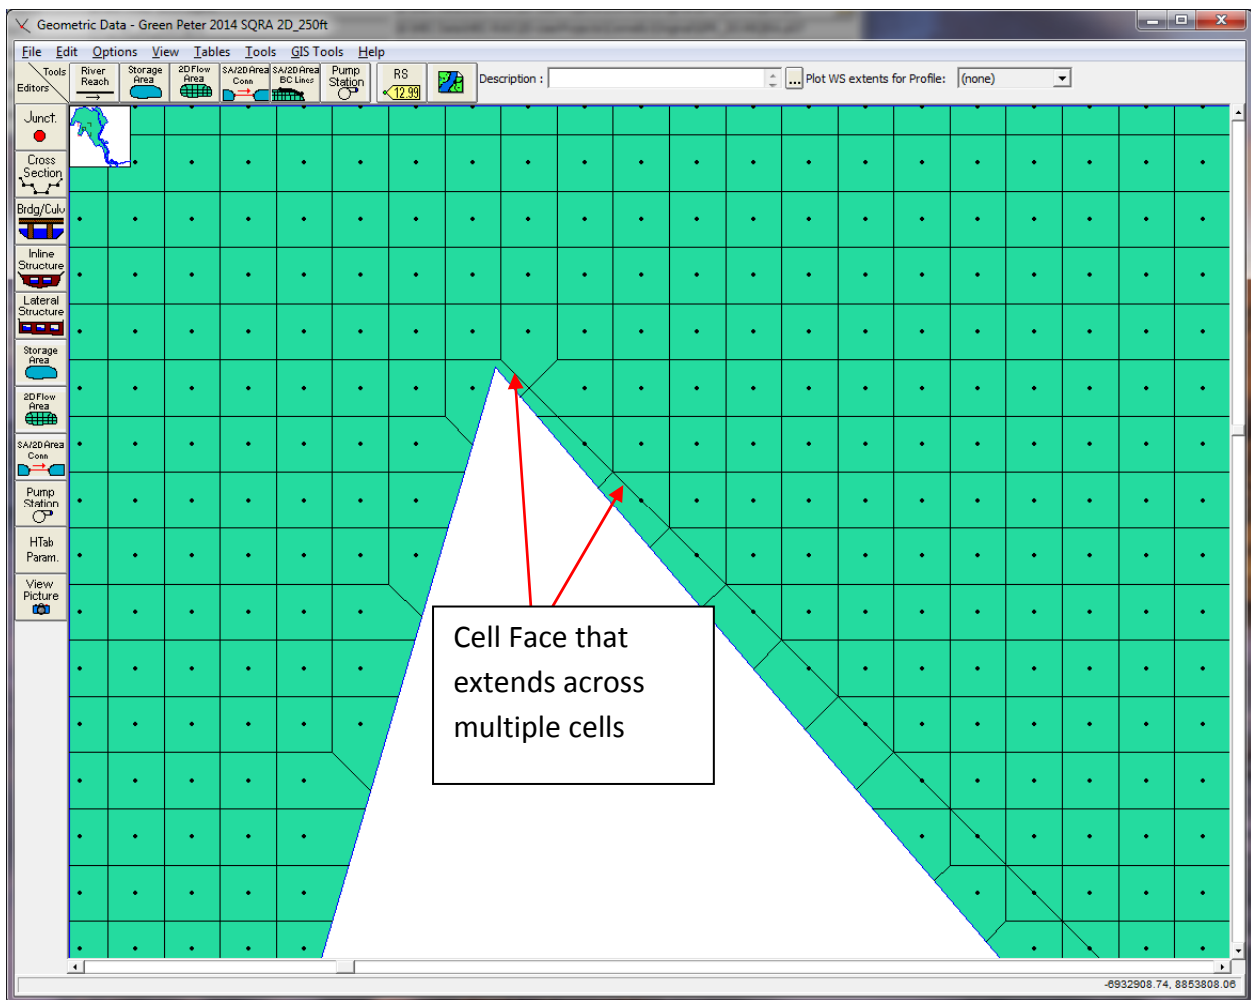

Figure 21. Example of a cell face that extends way beyond that single cell.
- **Cell Face Crosses over into Multiple Cells:** On a rare occasion, the automated mesh generator may create a cell face that extends way past that single cell (Figure 21). This only occurs for boundary cells, and usually where the boundary has a very sharp corner. To fix this you can add points to the boundary polygon and smooth out the boundary. You can also add more cell centers, delete cells, or move some cell centers. Use the tools found in the Geometric editor under the “**Edit**” Menu. Available tools are (1). **Add Points:** to add points to the cell boundary polygon, or additional cells; (2). **Remove Points:** to delete points in the boundary polygon, or delete cells; and (3). **Move Points/Objects:** to move the boundary points or the cell centers.